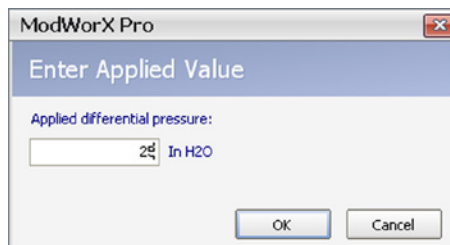
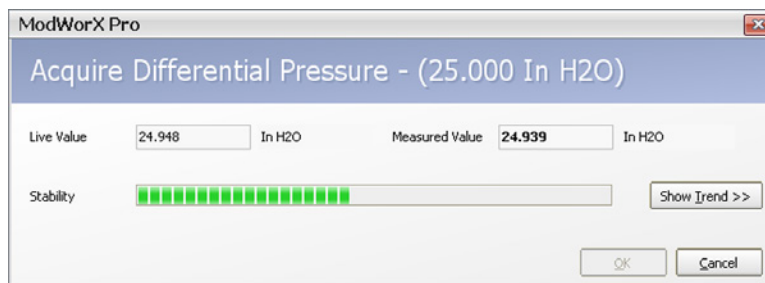
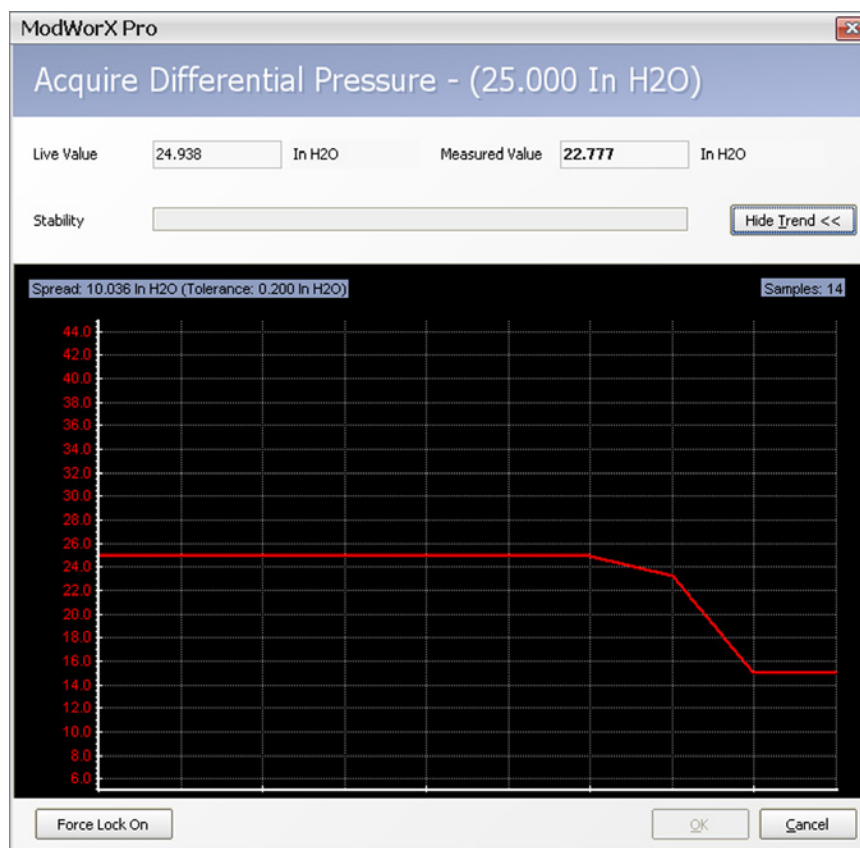

Figure 8.4
Figure 8.5
Figure 8.6
- Apply a known pressure to the calibration test device (for example, 25 In H2O) and click **Acquire Point** (Figure 8.4). An Enter Applied Value dialog will appear (Figure 8.5, page 110).
6. Enter the applied pressure value (for example, 25) in this field, and click **OK**. A screen will appear, showing the live value, the measured value, and a stability bar showing the progression of the calibration (Figure 8.5). The live value is the instantaneous reading of the pressure input, and the measured value is the average of all samples read.
7. To view the progression of the calibration process in a graph, click **Show Trend** (Figure 8.5). This view also shows the spread of values and the number of sample readings taken (Figure 8.6).